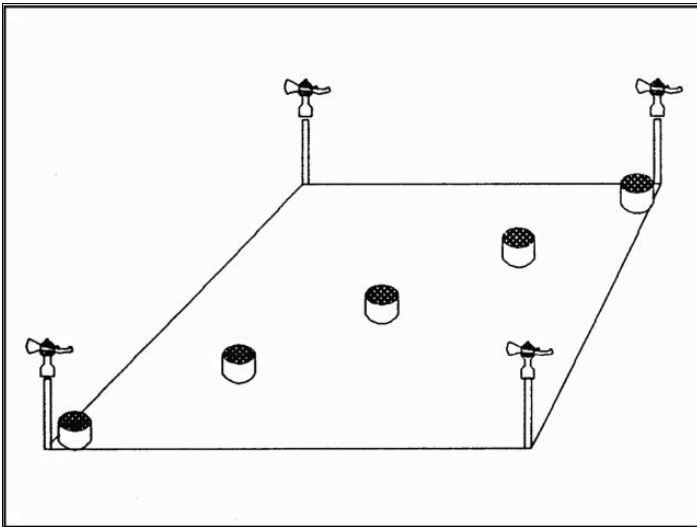
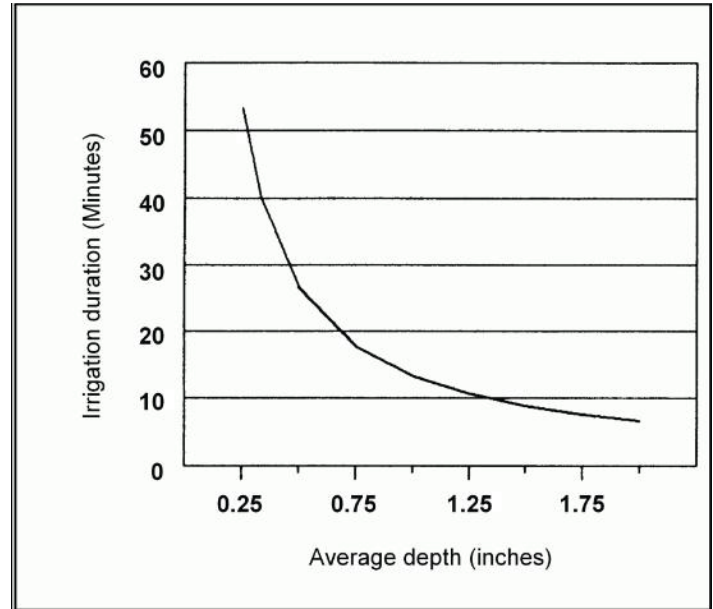

Figure 7. Test-can distribution to measure application rate and uniformity.
Figure 8. Time that an irrigation system should be on to apply $\frac{2}{3}$ of an inch of water to a soil that has been depleted 50%.
- *Measuring the depth of water applied.* When a water meter is not available place five wide-mouth, flat-bottom cans spaced equally along the diagonal of four sprinklers (see Figure 7). After 20 minutes of irrigation, turn the system off and use a ruler to measure how deep the water is in each can. Average the five measurements and use the average to determine the time required to apply $\frac{2}{3}$ of an inch of water (from Figure 8). For example, if a 20-minute can test resulted in an average water depth of $\frac{1}{2}$ of an inch, the time that irrigation system should be turned on in order to apply $\frac{2}{3}$ of an inch of water is obtained from Figure 8 as 27 minutes. Any water applied after 27 minutes will be wasted as deep percolation.
- If a hose and sprinkler is used with this method, set the sprinkler pattern to $\frac{1}{4}$ of a circle before carrying out the test. Move the sprinkler to each corner of the irrigated area and irrigate for five minutes from each corner for a total of 20 minutes. Obtain the irrigation duration from Figure 8 using the average depth in the cans as previously explained. When irrigating the turf, apply water for the irrigation duration when the hose-and-sprinkler is used in full circle; for $\frac{1}{2}$ the irrigation duration when the hose-and-sprinkler is used in half circle; and for $\frac{1}{4}$ the irrigation duration when the hose-and-sprinkler is used in quarter circle. Also, if possible, carry out the test in the early morning hours and under no-wind conditions.
The performance of an irrigation system depends strongly on how well the system is designed. First, check the manufacturer's specifications. The irrigation system will not work well if sprinklers are spaced too far apart or operated outside the recommended pressure. This is true of hose-and-sprinkler systems through sensor-controlled systems. A simple test to evaluate the performance of the system is to measure the uniformity of application. This is done by using cans to measure depth of application as previously described. To obtain an idea of the distribution pattern use at least five cans along the diagonals of the sets of four sprinklers as shown in Figure 7. If possible, run the test under no-wind conditions. The variation of depth between the cans should be small ($\pm 10\%$ of the average). If the applied depth is not fairly uniform, it is indicative of design problems, such as improper spacing or operating pressure.